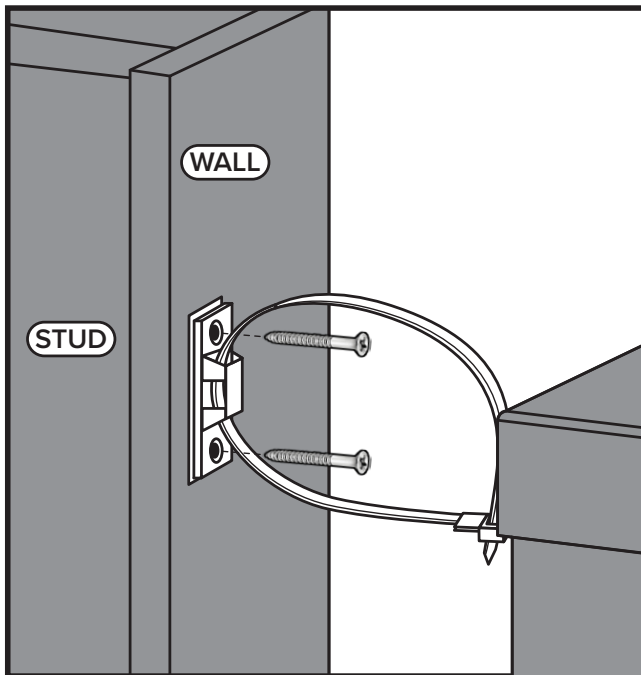

Figure 1
1. Determine desired location of furniture piece. Find wall stud behind furniture piece and position one bracket vertically on the stud approximately 1" below the top of furniture piece. Mark and drill pilot hole in the center of the stud with a 3/32" drill bit. Attach bracket to stud with the two 1 1/4" screws. (Figure 1)